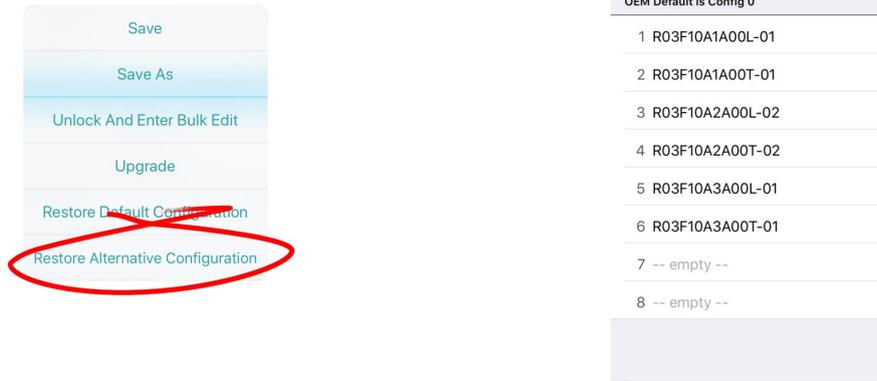

Figure 73: Opening chair configs
7. To view and select a configuration, tap on the **Application** menu button (📄) at the top of the screen and then select **Restore Alternative Configuration** – the Chair Con-figs screen will open – *Figure 73*.